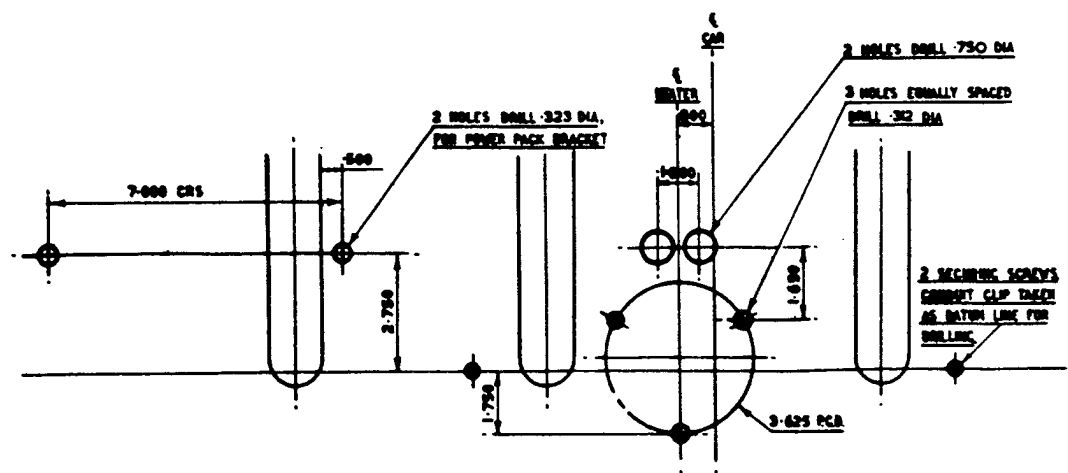

FIG. 3. DRILLING OF DASH FROM INTERIOR OF CAR.
2. Pull back the felt or Sepak insulation sufficiently to bare the metal dash for marking off and drilling as shown in Fig. 3.